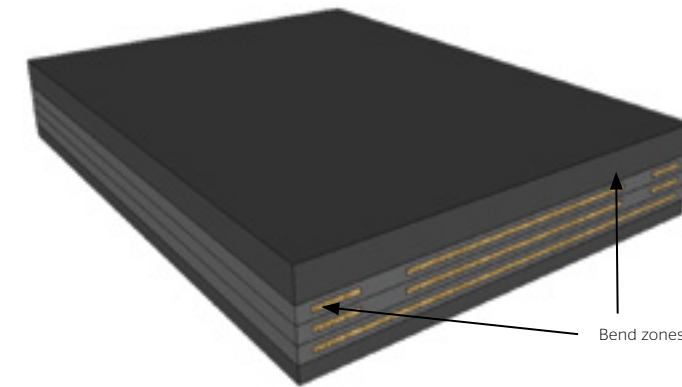

Fig. 8-1
4. Fig. 8-1 shows the construction of a fabric pipe belt. The areas of most concern are the bend zones at each edge of the belt. Maintaining the bend zones when stripping the belt ends using the Bias Step Splice method may be very difficult.